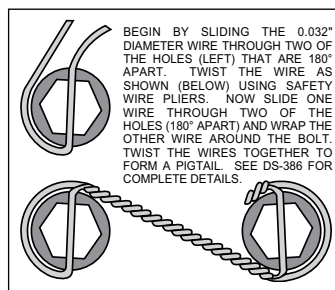

Figure 4. Safety Wire Diagram
•The hat/rotor assembly (7) has been pre-assembled at the factory using red *Loctite*® 271 on the mounting bolts and torqued to specification. For an added measure of security, the bolts may be safety wired using standard 0.032 inch diameter stainless steel safety wire as shown in Figure 4. Please refer to Wilwood's data sheet DS-386 (available at [www.wilwood.com/Pdf/DataSheets/ds386.pdf](http://www.wilwood.com/Pdf/DataSheets/ds386.pdf)) for complete safety wire installation instructions.